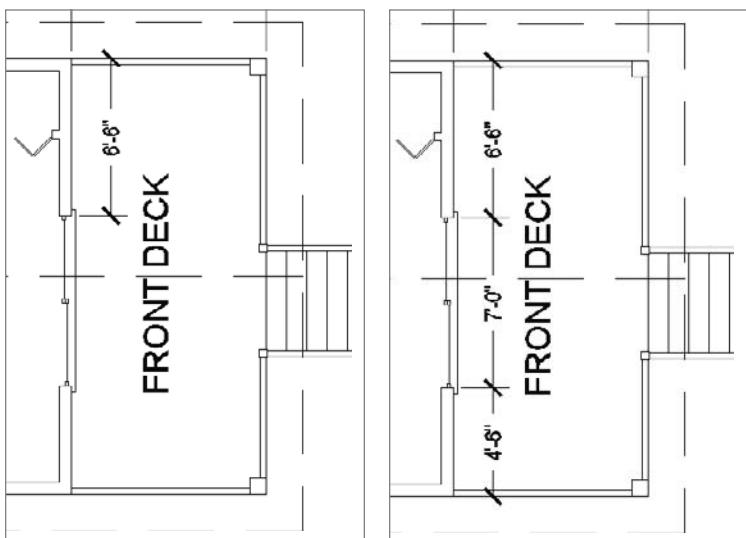

FIGURE 12.29 The dimension drawn to the start of the sliding door opening (left) and the completed first set of vertical dimensions (right)
Click to place the dimension between the wall and the FRONT DECK text. Adjust the location of the text if needed (see the left image of Figure 12.29).
4. Use the Dimension Continue tool and grips to draw and edit the remaining two dimensions for the front of the cabin (see the right image of Figure 12.29).